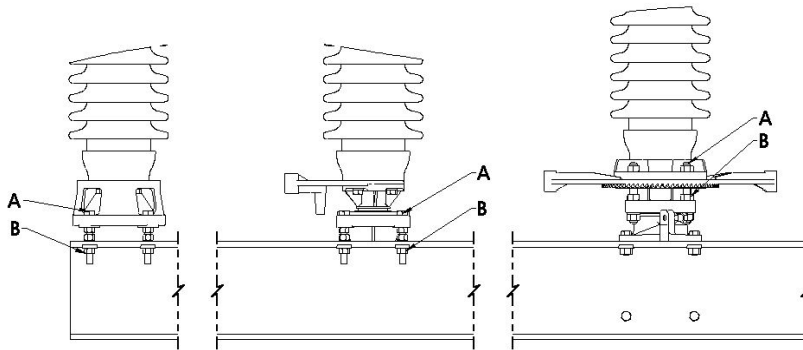

Figure 5: Jack Screw Adjustment Procedure
5. Use a plumb bob or level and true up the end insulators. It is important that they be perpendicular to the base in both planes. Use the jack screws to level these stacks. (Due to the overhang of the insulator skirts, it will be necessary to use a piece of scrap metal or wood to extend the plumb bob string beyond the skirts.) See Figure 5 for Jack screw adjustments procedure.